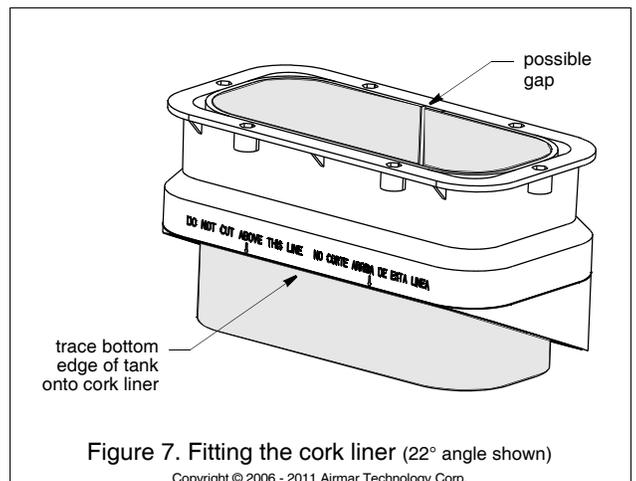

Figure 7. Fitting the cork liner (22° angle shown)
4. The tank is provided with a cork liner to reduce sound echoes. After the tank has been cut, wrap the cork liner around the *inside* of the tank (Figure 7). Butt the sides of the liner along the center of the tallest side. Trace the bottom edge of the tank onto the liner.